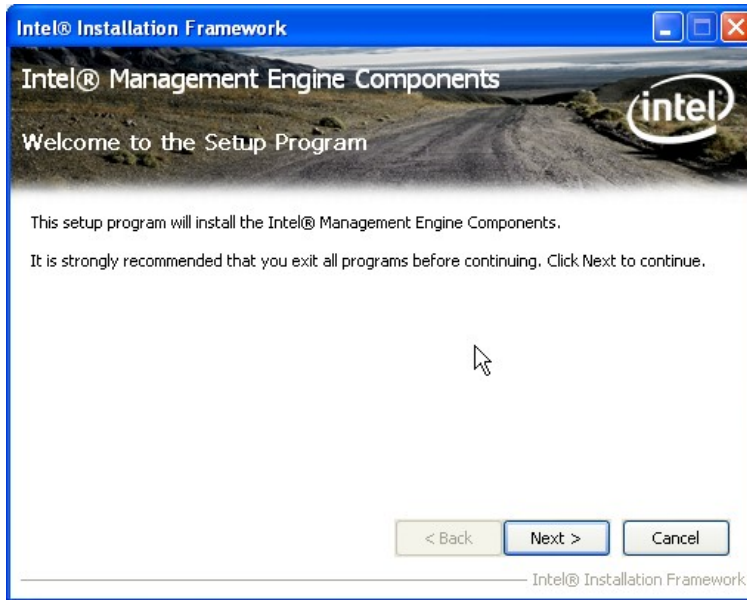

Figure 6-27: Intel® ME Driver Welcome Screen
Step 5: When the setup files are completely extracted the **Welcome Screen** in **Figure 6-27** appears.